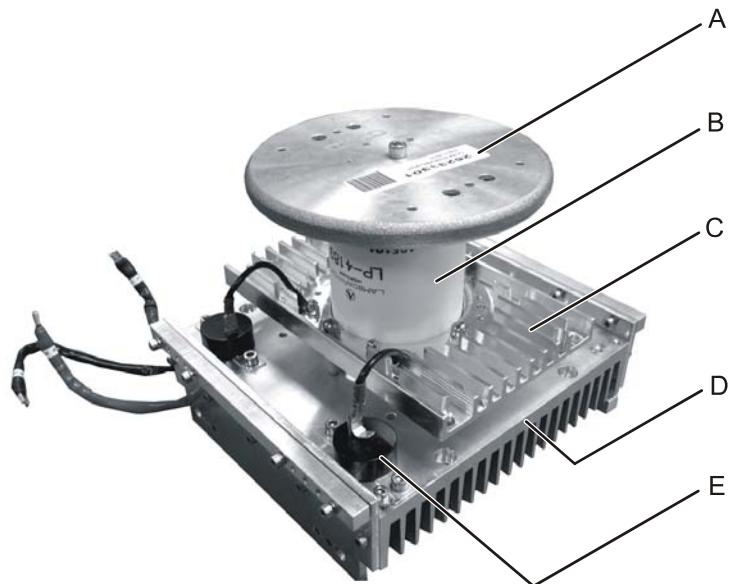

Figure 50: Thyratron and heat sink assembly
11. Turn the thyratron and heat sink assembly upside down and place it onto a work bench (see Figure 50).
Key to Figure 50